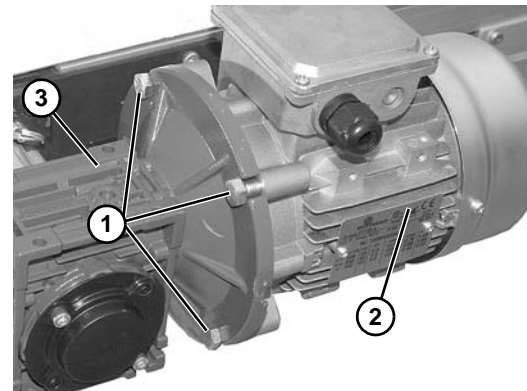

Figure 24
4. Remove four (4) screws (Figure 24, item 1). Detach motor (Figure 24, item 2) from gear reducer (Figure 24, item 3). Retain motor output shaft key.